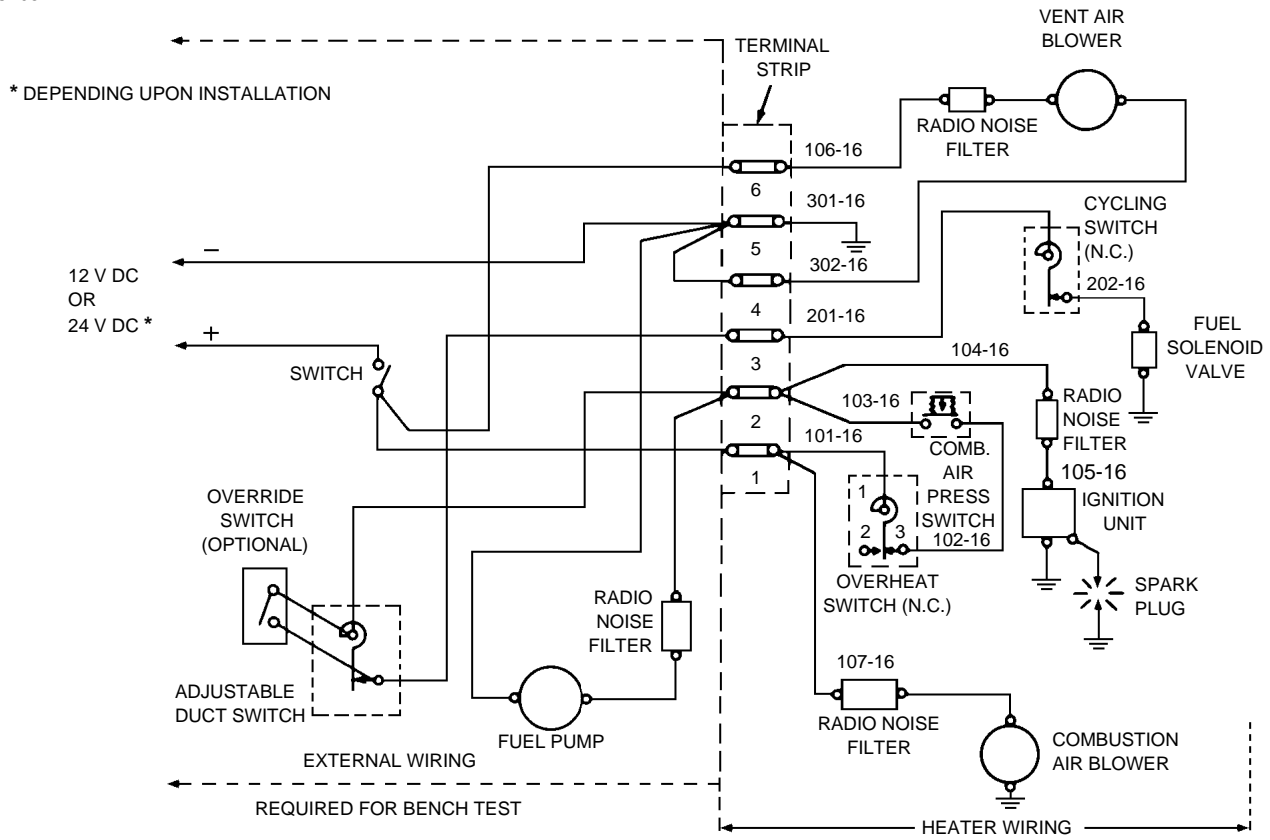

Figure 21-19. Wiring Connection for Heater Operation Test
3. Connect components and heater as outlined in the wiring connection diagram, Figure 21-19. The power supply switch should be open.